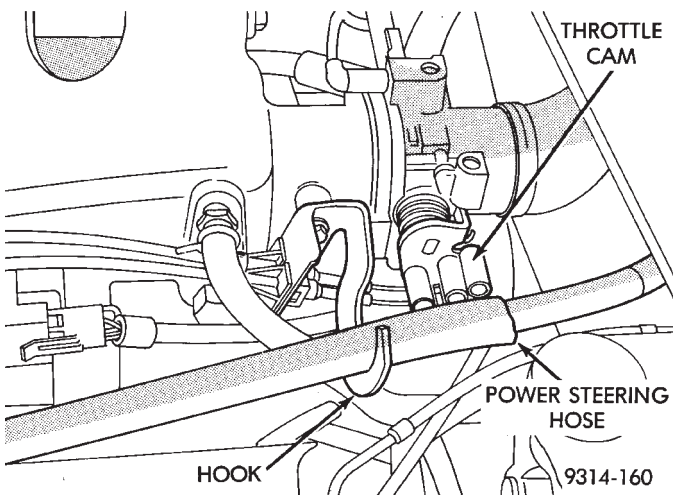

Fig. 56 Power Steering Hose and Bracket—3.5L Engine
- (1) From the engine compartment, push the housing end fitting into the dash panel grommet.
- (2) Install the cable housing (throttle body end) into the cable mounting bracket on the engine.
- (3) From inside the vehicle, hold up the pedal and install throttle cable and cable retainer in the upper end of the pedal shaft.
- (4) At the dash panel, install the cable retainer clip between the end of the throttle cable fitting and grommet.
- (5) From the engine compartment, rotate the throttle lever to wide open and install the throttle cable. **On 3.5L engines, ensure the power steering hose is routed through the hook on the throttle cable mounting bracket (Fig. 56). Make sure the throttle cam and power steering hose do not bind.**